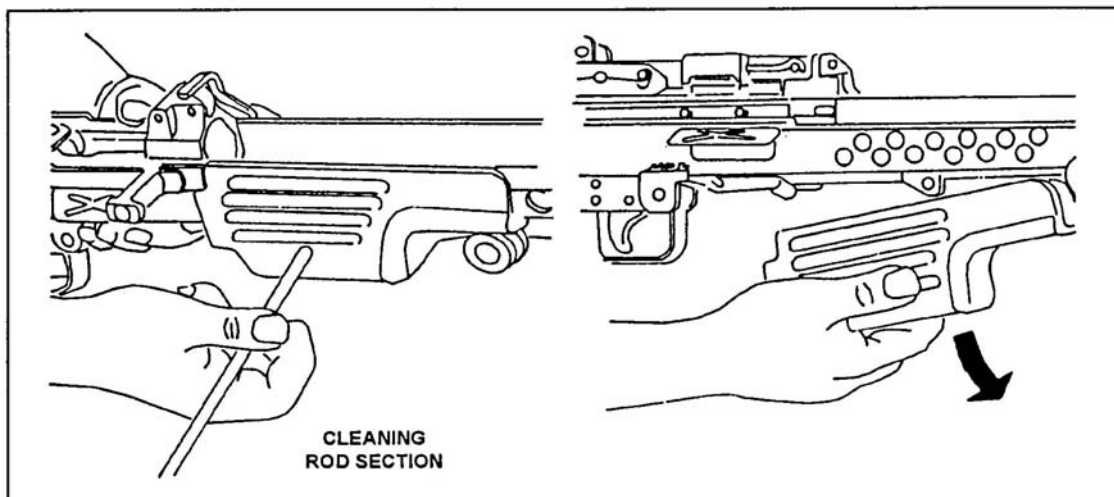

Figure 8. Removal of the handguard.
- e. Remove the handguard (Figure 8)
- (1) Push the handguard retaining pin to the left using a section of the cleaning rod.
- (2) Pull downward and remove the handguard.